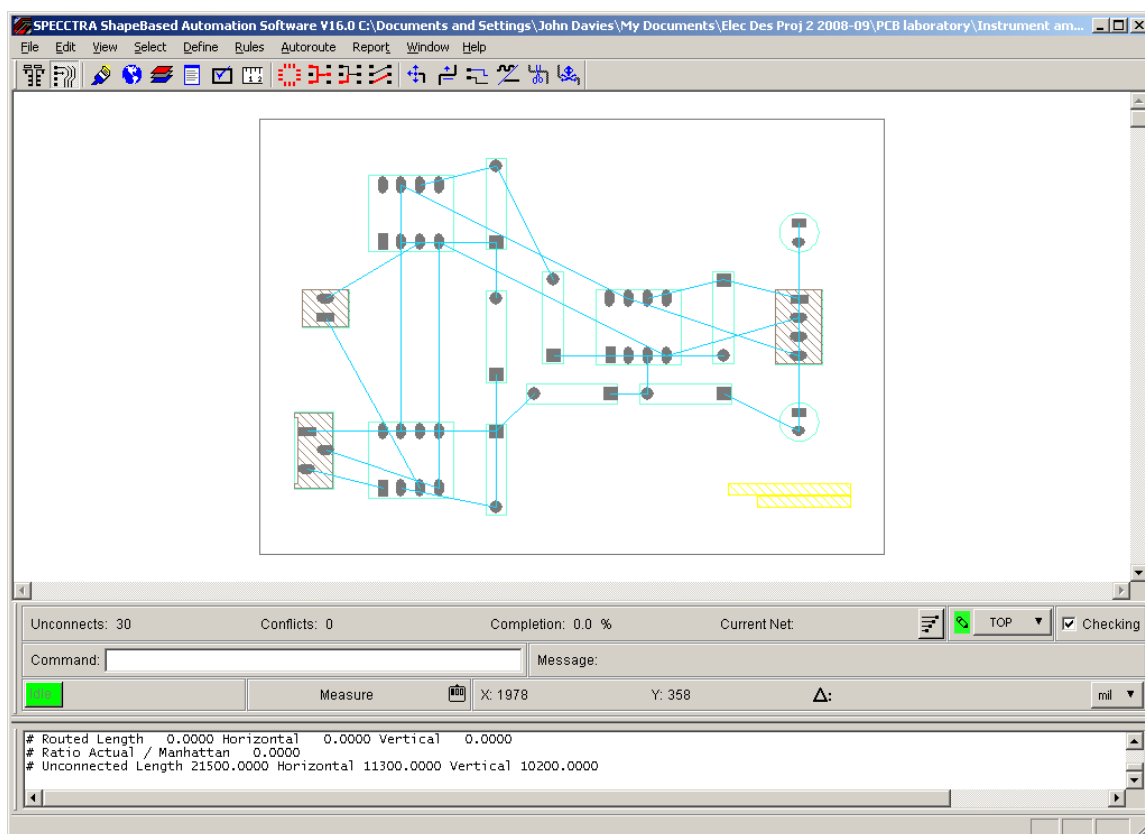

Figure 18. Screenshot of PCB Router, ready to route the instrumentation amplifier. I have changed the background of the window to white for a clearer printout.
Click Start Allegro PCB Router to dismiss the box. PCB Router starts and you should now see your components joined by the ratsnest within the outline of the route keepin as in figure 18 on the previous page. Some components have shaded footprints, which I'll explain later.
- The connectors (J1 and J2) and the trimmer (R8) have tracks only to the bottom of their pins. This is why the via is needed near R8. No tracks run to the top because the symbols for these components have *route keepouts* on the top, which forbid the router from placing tracks there. The footprints have diagonal shading in PCB Router to show this, visible in figure 18 on page 33.